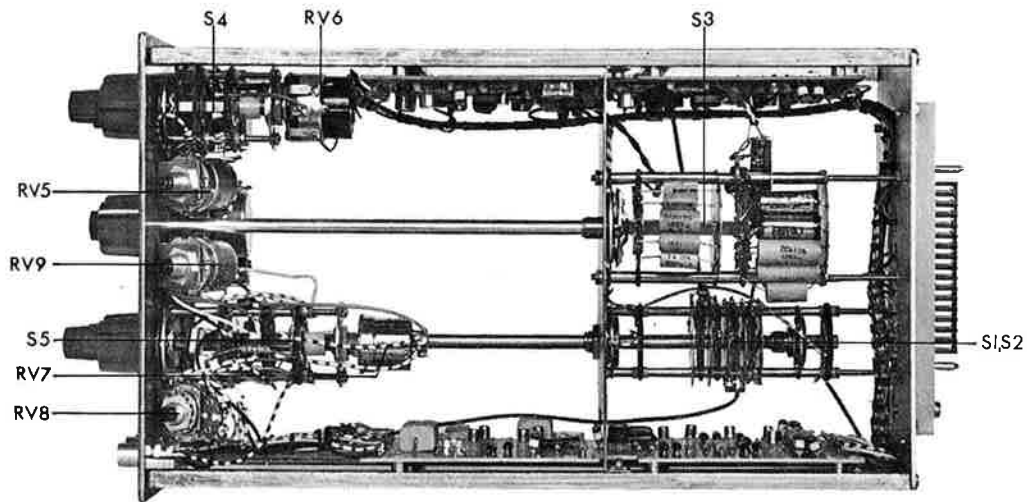

Fig. 4. Top view
4. Adjust X POS. RV8 (fig. 4) so that the start of the trace is shown on the CRT.